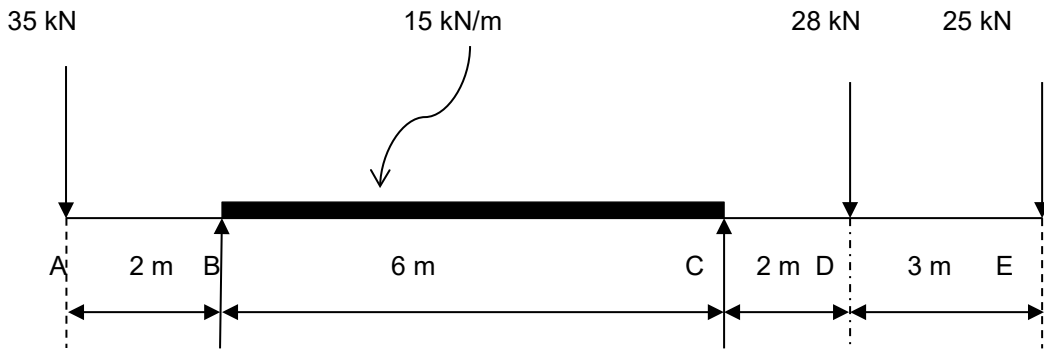

FIGURE 2
2.2 FIGURE 2 shows a simply supported loaded beam.